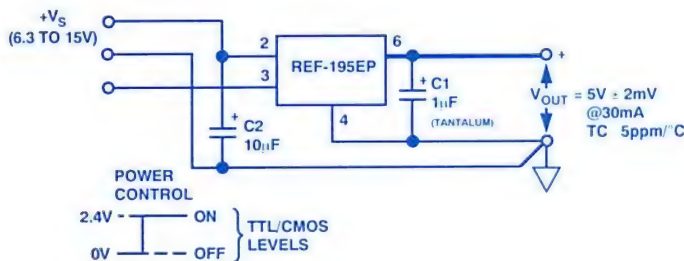

Figure 16. 30-mA reference with shutdown.
**30-mA reference with shutdown:** The REF195 bandgap reference is like the other references of Table 1; but it has a unique shutdown capability, which allows a precision 5-V output to be turned ON and OFF by a TTL/CMOS compatible digital input, as shown in Figure 16. It has a low dropout of 0.5 V at 10 mA and low current